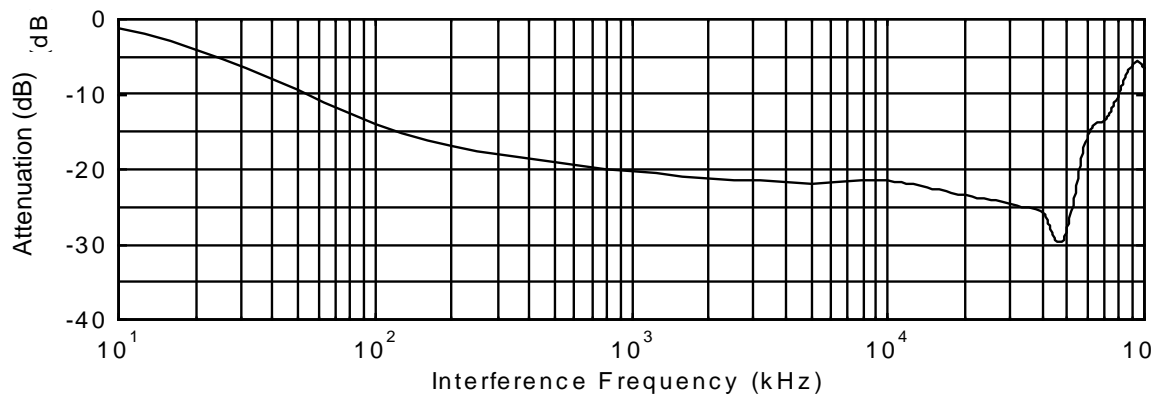

Fig. 11.4.1 Frequency attenuation characteristics (10 windings case)
- The ferrite core can attenuate high frequencies in the range of 100 kHz to 50 MHz, as shown in figure 11.4.1 below, and therefore should minimize the RFI generated by the inverter.